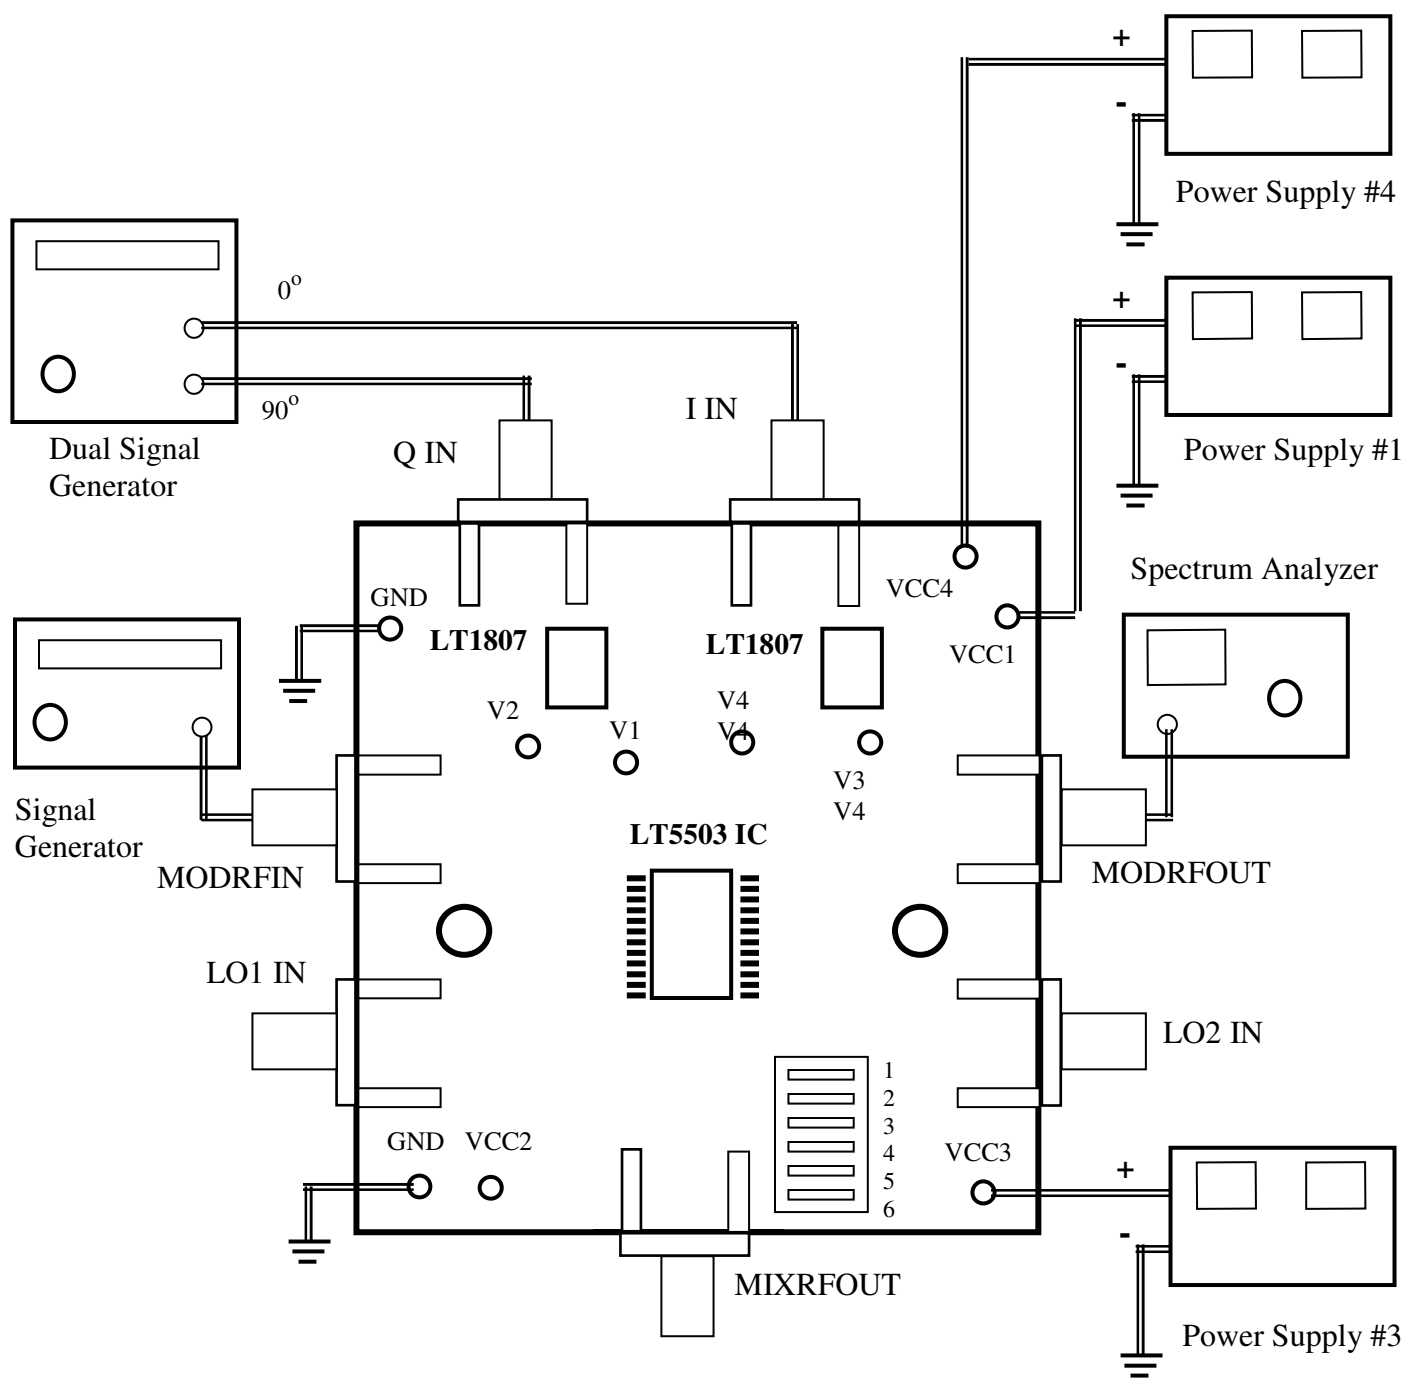

Figure 6. Test set up for LT5503 I/Q modulator measurements.
1. Connect all the test equipment and power supplies as shown on Figure 6.